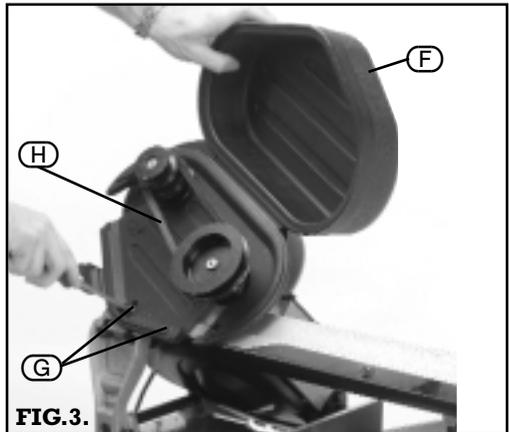

FIG.3.
2. PULLEY COVER & BELT (Fig.3.)